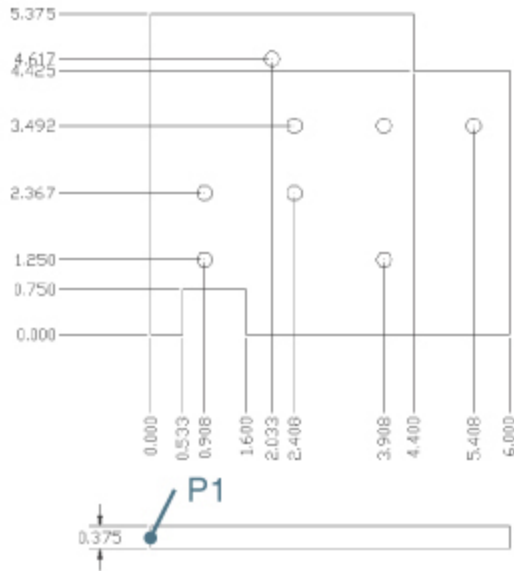

Figure 13-44
- 5 Start the **DIMLINEAR** command and place the dimension shown at P1 in Figure 13-44.